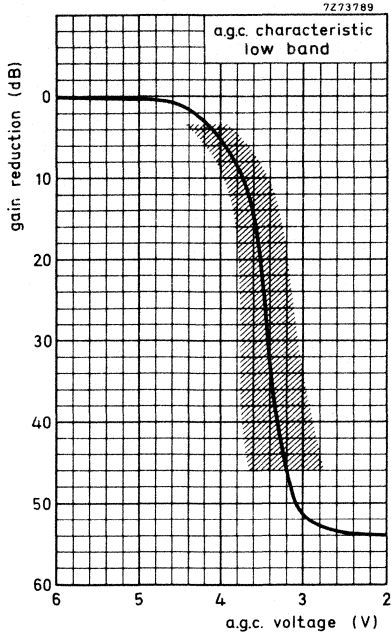

Fig.5
A.G.C. voltage (Figs. 5 and 6)